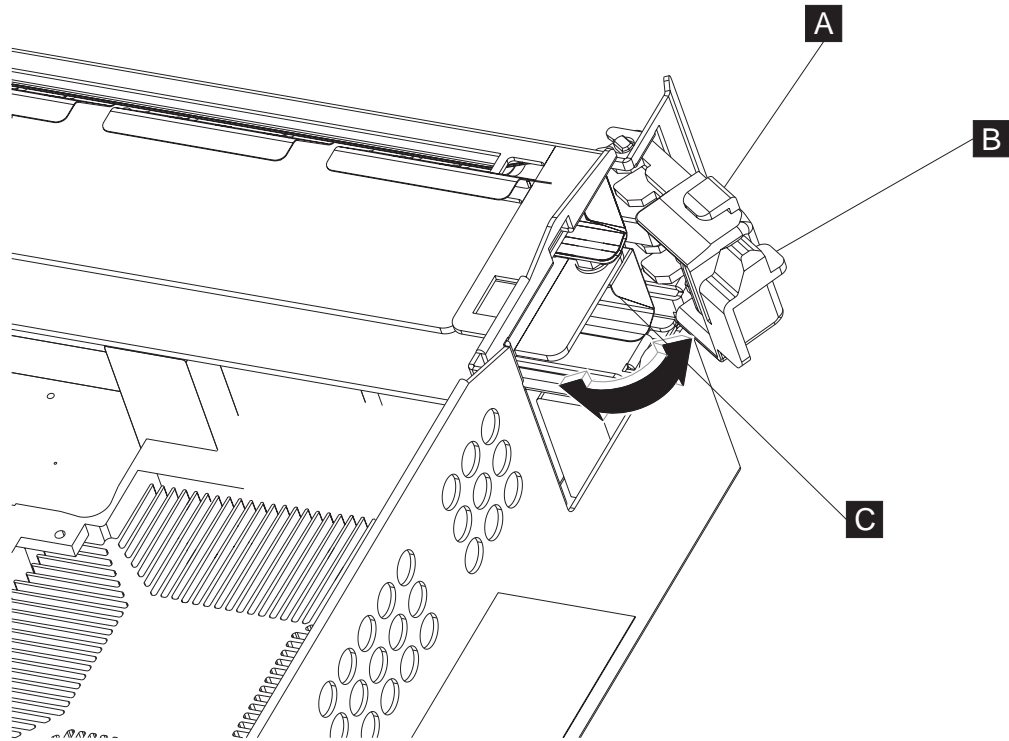

Figure 24. Opening the I/O module latch
3. Open the I/O modules latch ( **A** ) in Figure 24) by pressing down on its locking tab ( **B** ) and rotating it counterclockwise on its hinge.